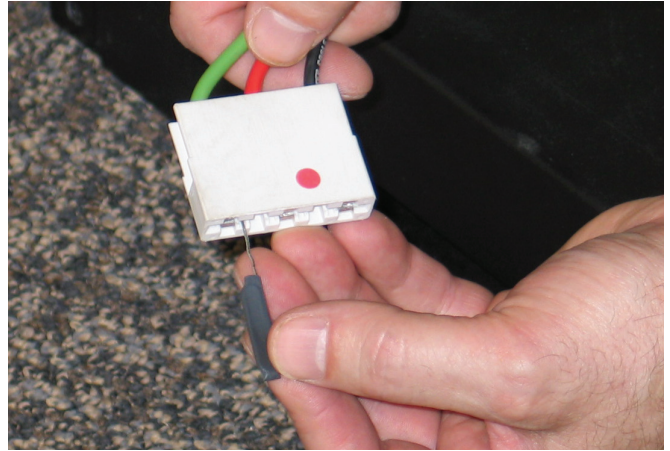

Figure 4
- Using the paper clip wire tool, unlock the spring tab on each wire connector by inserting the tool into the hole on the side of each connector (figure 4).